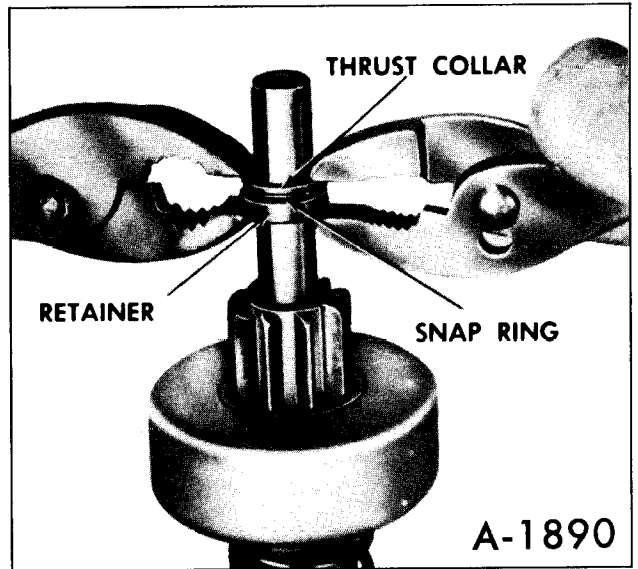

Figure 52—Solenoid Terminals and Sealing
5. Apply sealer, No. 1050026 or equivalent on solenoid flange as shown in (figure 52).
To check, connect a voltage source of approximately 6 volts between the solenoid switch terminal and ground. (figure 52).